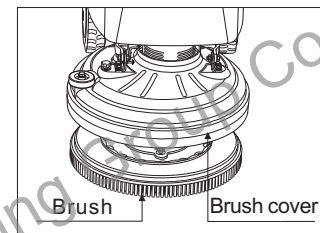

fig. 4
- ① Step on the pedal and move it rightward into the restraint slot and lift the brush up. Then, push the brush inward until it is right under the brush cover(fig. 4).